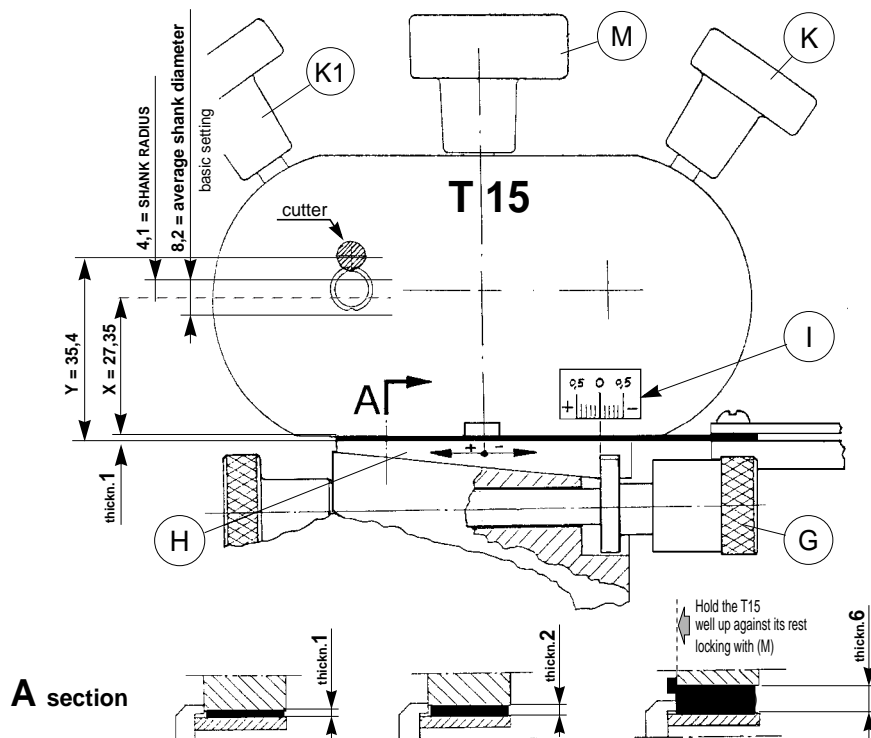

Fig. 16
The machine setting (as shown in fig. 16) has a point "X" between the upper part of the wedge (H) and the rotation axis of the key on device, with a radius of 4,1 mm. equal to a greater shank diameter (e.g. CHICAGO MAS. 8,65 mm.) or lesser shank diameter (e.g. FORT MAS. 7,62 mm.). In such a case proceed as follows:
- 1) loosen knob (M).
- 2) turn screw (G) in the direction required, bearing in mind that a complete turn of the screw gives a height variation of 0,1 mm.
- 3) when the variation required has been obtained, tighten the knob (M).